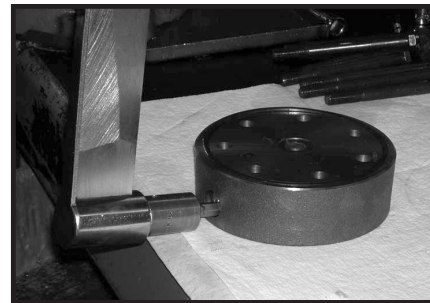

Figure 7
5. If the end cover (2) is equipped with shuttle valve or relief valve (24) components, remove the two previously loosened plugs (21) and o-rings (22). SEE FIGURE 7.
**NOTE:** O-ring (22) is not included in seal kits but serviced separately if required.